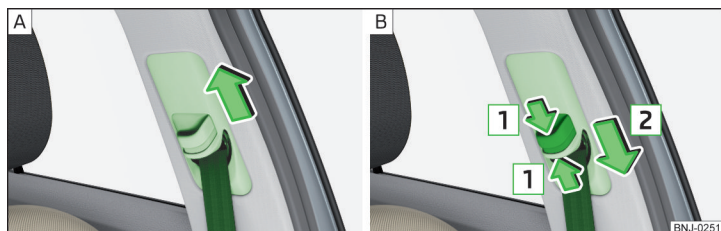

Fig. 5 Seat belt height adjusters for front seats
- Push the return pulley **upwards** in the direction of arrow» Fig. 5 - [A].
- Or: push together the mechanism in the direction of arrows [1] and push the return pulley **downwards** in the direction of arrow [2]» Fig. 5 - [B].